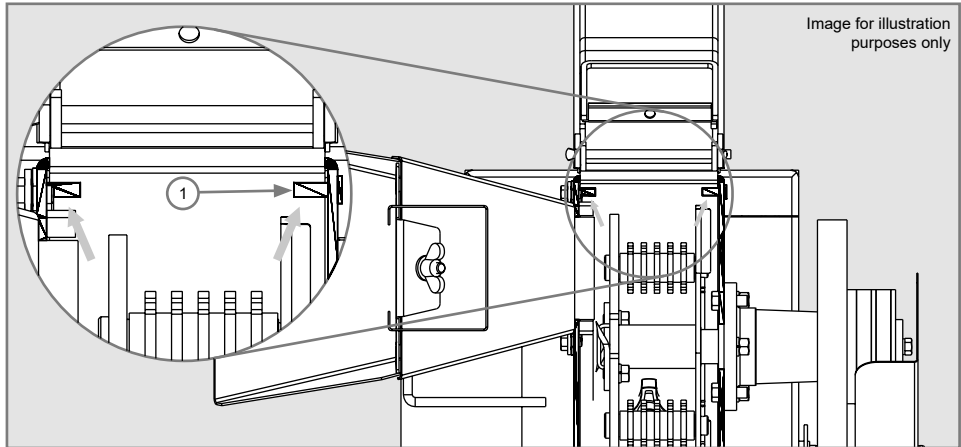
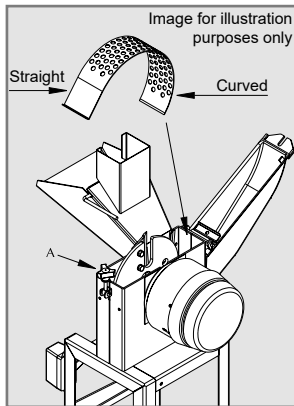
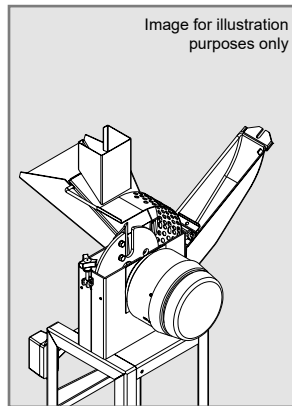

Figure 6
Figure 7
Figure 8
the pin (1) and the crusher body, according to Figure 6. In order to perform the correct assembly, start by the curved side of the sieve, as shown in Figure 7 and complete the assembly according to Figure 8 and 9. In case the sieves do not perfectly seat, it may happen they are touched by the knives and cause serious damages to the equipment.